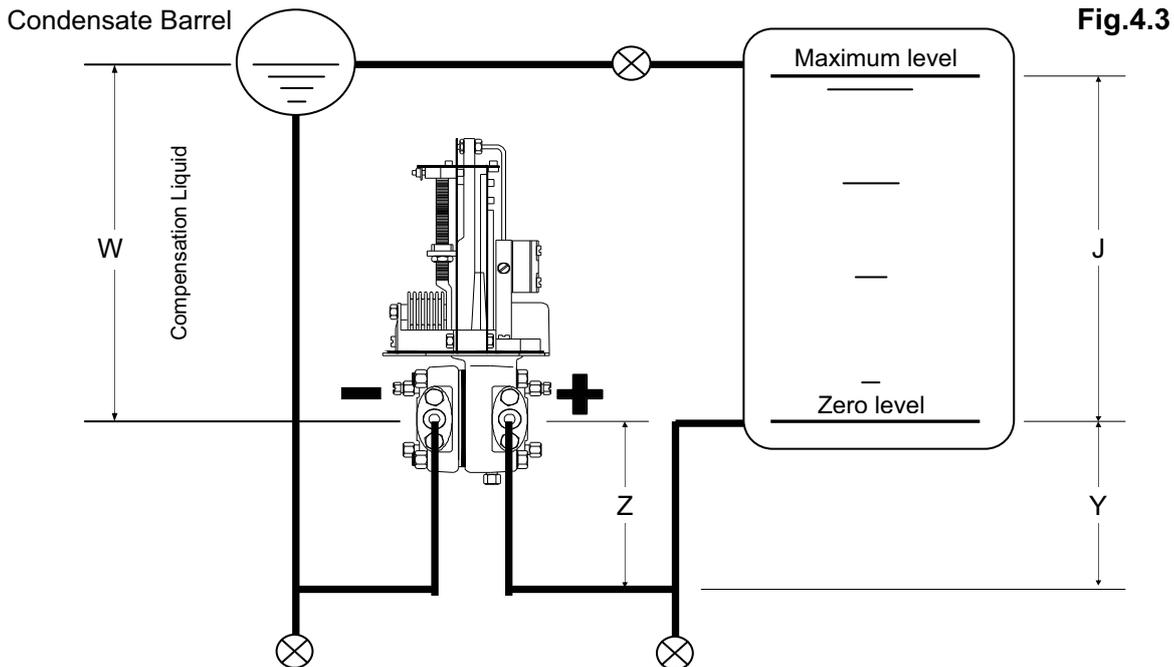
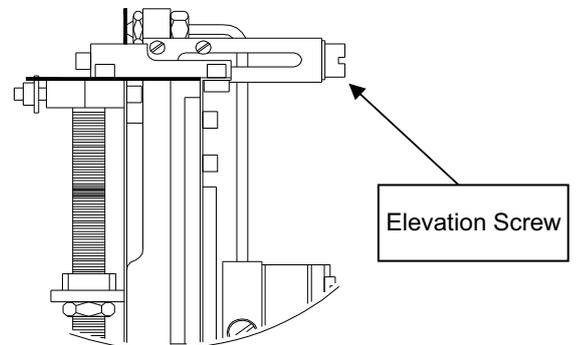

Fig.4.3
Fig.4.4 ELEVATION DEVICE
For pressure vessels, connect the transmitter as in fig. 4.3. It must be provided with an elevation device (fig. 4.4) since the transmitter output signal would be different from 3 psi at zero level.
- 2) Fill it with liquid (W)
- 3) Use the elevation screw (Fig.4.4) to obtain a 3 psi transmitter output